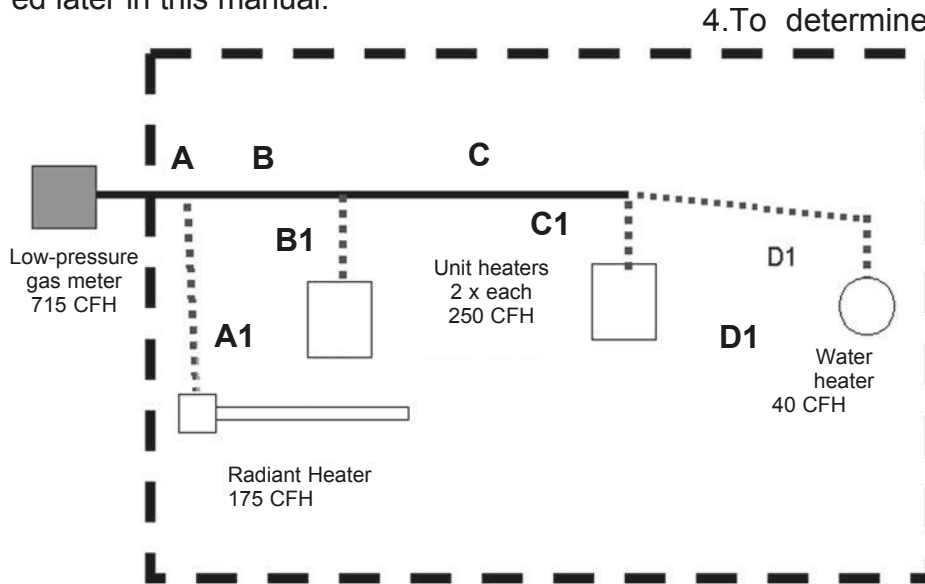

Figure: 3-5
1. The system shown in Figure: 3-5 is a typical commercial building with 4 appliances. The gas pressure for this example is standard low pressure with 6-inch supply pressure and 0.5-inch pressure drop.